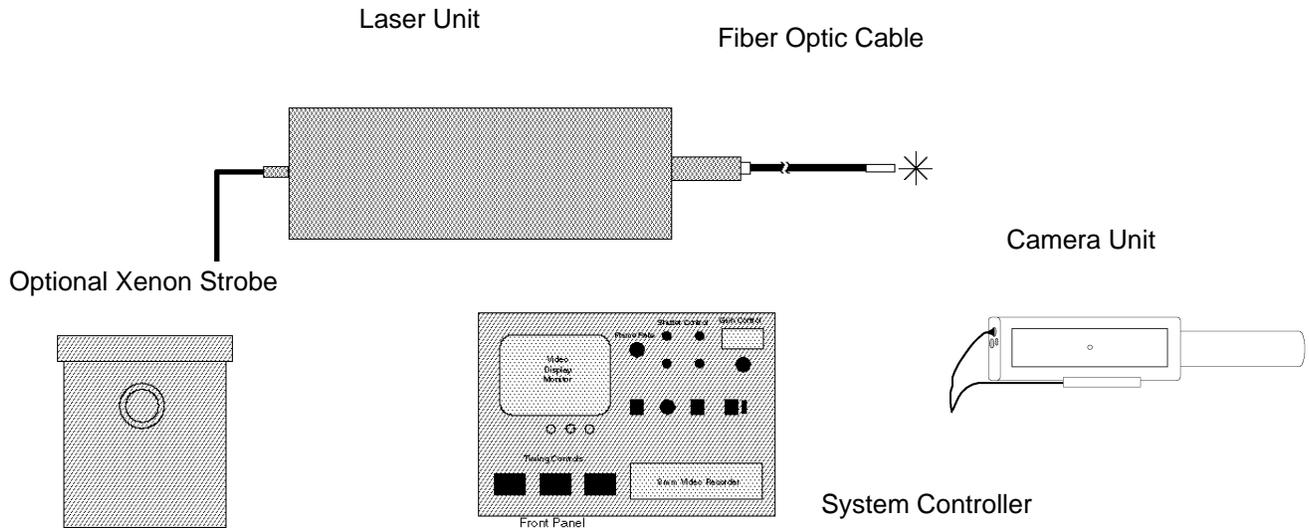

Figure 1- System Block Diagram
Each laser unit includes (1) a pulsed nitrogen laser, (2) a small cylindrical fiberoptic feed module attached to the exit aperture of the laser, and (3) a fiberoptic cable that transports the laser energy to the welding site, using a single large-core optical fiber. (Reference Figure 1 on the next page.)